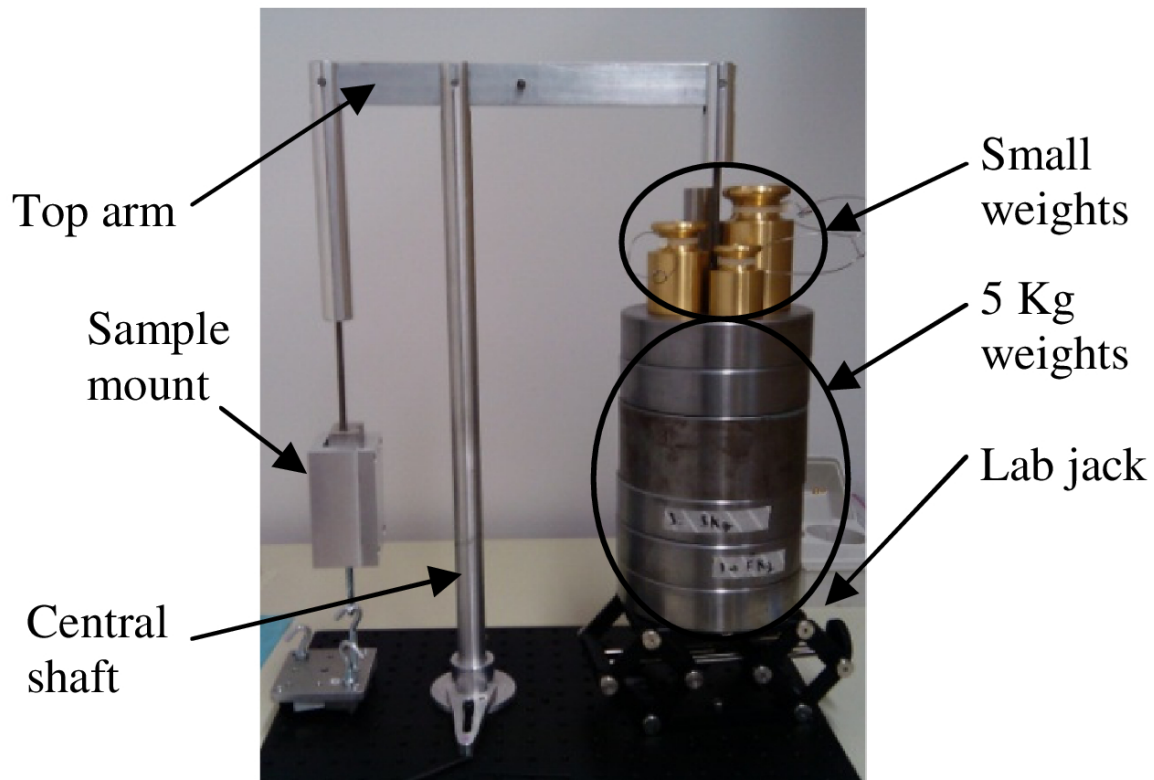

Figure 1: "Photograph of the setup used for shear strength measurements." [1].
My design was inspired by the apparatus used in a paper which was measuring the shear strength of a glass-glass direct bond [1]. The paper had a picture of their apparatus (Figure 1) but did not explain how their apparatus was constructed—most importantly, they did not explain how they mounted their wafers—so I had to design that myself.
- I swear I have seen weights like in Figure 1 used in a lab class, so I presume they are not something that needs to be purchased.